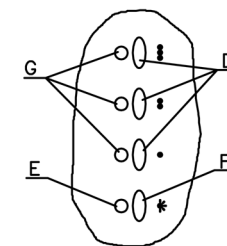

Fig. 6
- Lighting control lamp. Fig. 6. (Ref. E).